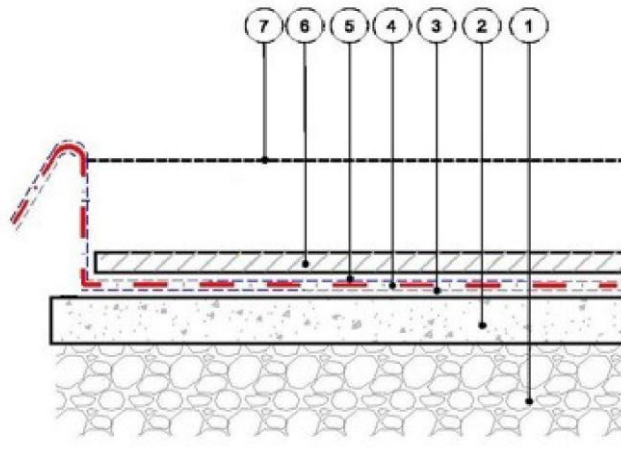

Fig. 1
2. APPLICATION (Fig.1)
1. The synthetic membrane and the bottom protective layers are protruded from the vertical elements at 0.5 - 1.0 m. in order to ensure their good welding with the relevant parts of the walls (Fig. 1).